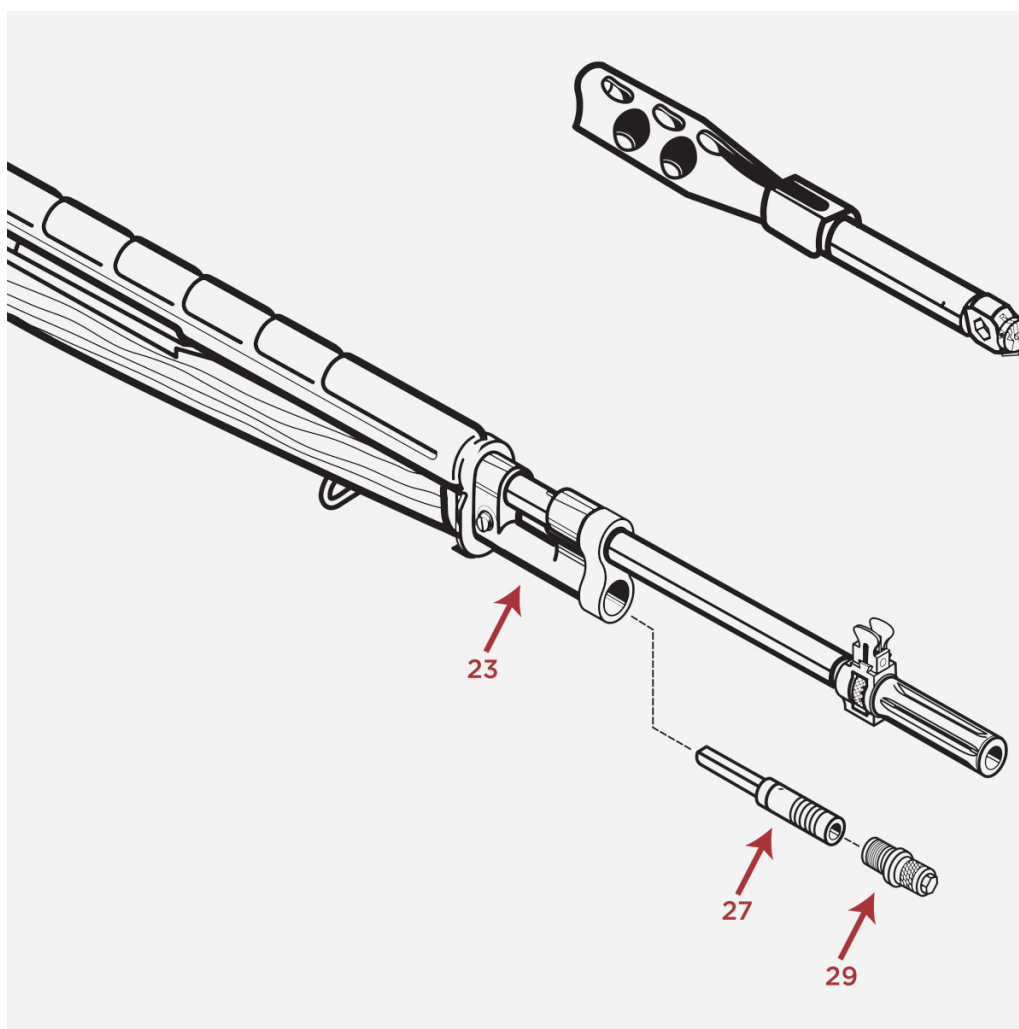

Fig 6
The only normal maintenance procedure requiring any disassembly pertains to gas system care [see figure 6]. After clearing the action, making sure the rifle is unloaded and safe, remove gas cylinder plug (29) using a Springfield Armory® combination tool or a 3/8" (6 point) socket wrench by turning it counter-clockwise and withdrawing it from the gas cylinder (23). Tilting the firearm muzzle down, remove the gas piston (27), clean with bore solvent and wipe dry. Clean the inside of the gas cylinder and wipe dry. Use a #15 aircraft length drill bit and a letter "P" standard drill bit to remove carbon from inside the piston and plug. Insert the piston into the gas cylinder with the flat side up toward barrel. Make sure the piston is completely below the threads in the gas cylinder before replacing plug. Re-assemble dry - apply a SMALL dab of grease to the threads on the plug.